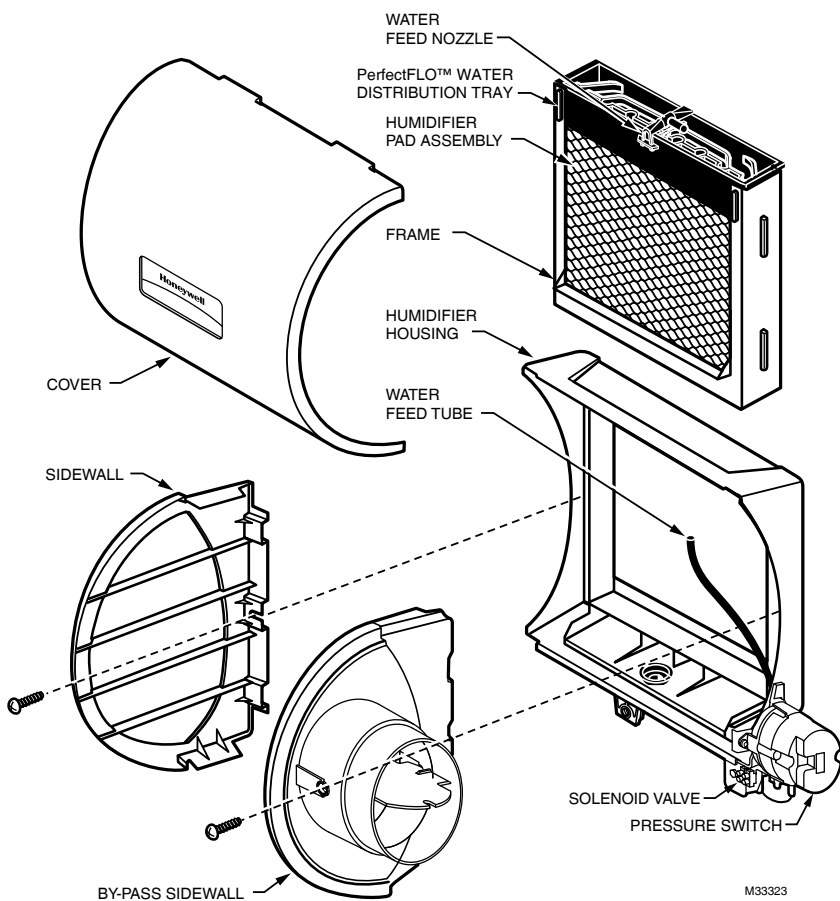

Fig. 4. Disassembling humidifier.
6. Disassemble the humidifier; remove the cover and take out the humidifier pad assembly. See Fig. 4.